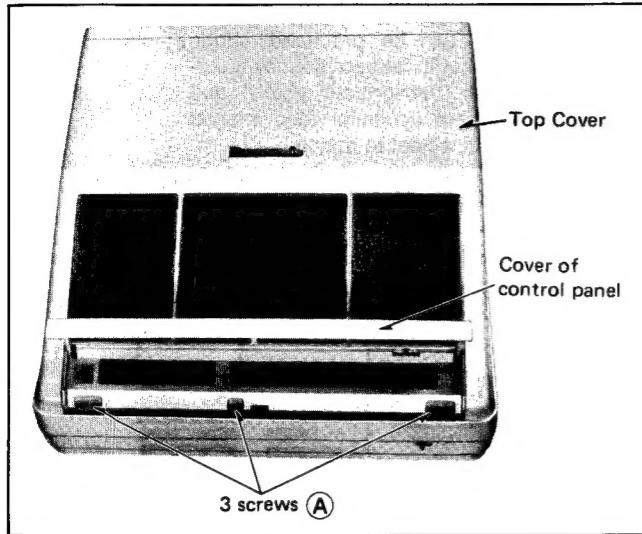

Fig. 2
- 2) Remove 3 screws **(A)** in fig. 2.